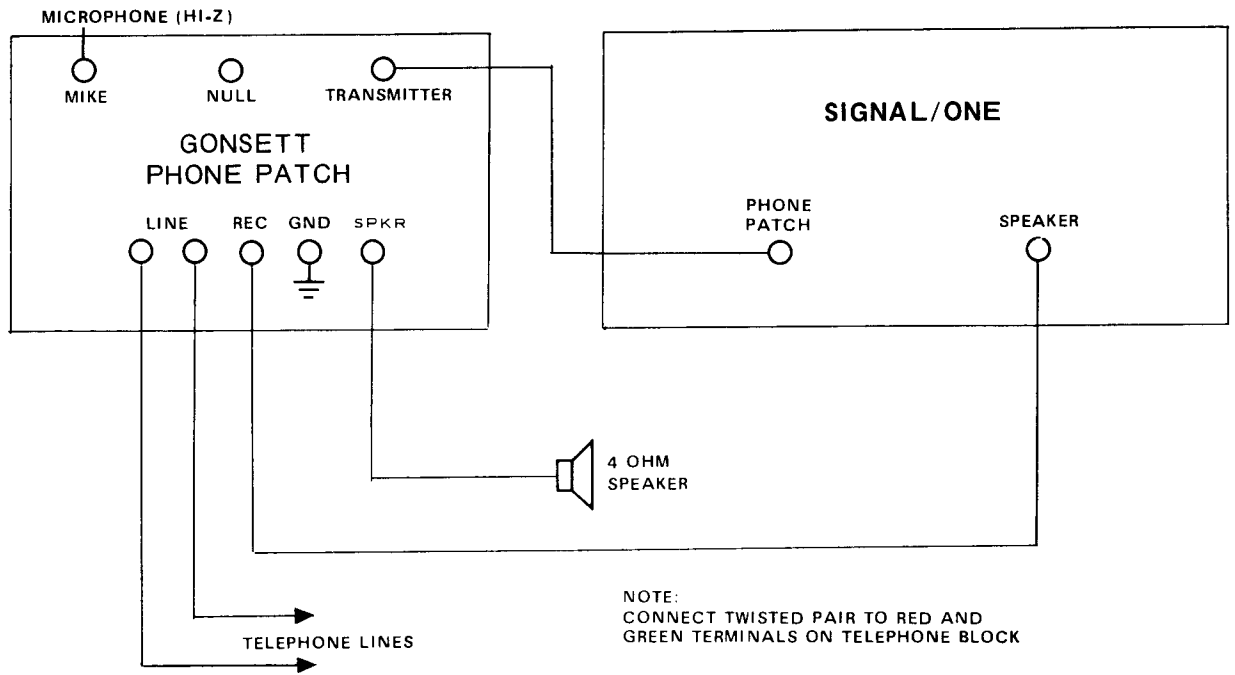

Figure 1-3. Hookup for Gonssett Phone Patch
a. Refer to Fig. 1-3 and 1-4 for connecting popular phone patches to the Signal One.
b. On phone patches other than those diagrammed in Fig. 1-3 and 1-4 refer to the manufacturers instructions for installation and operation.